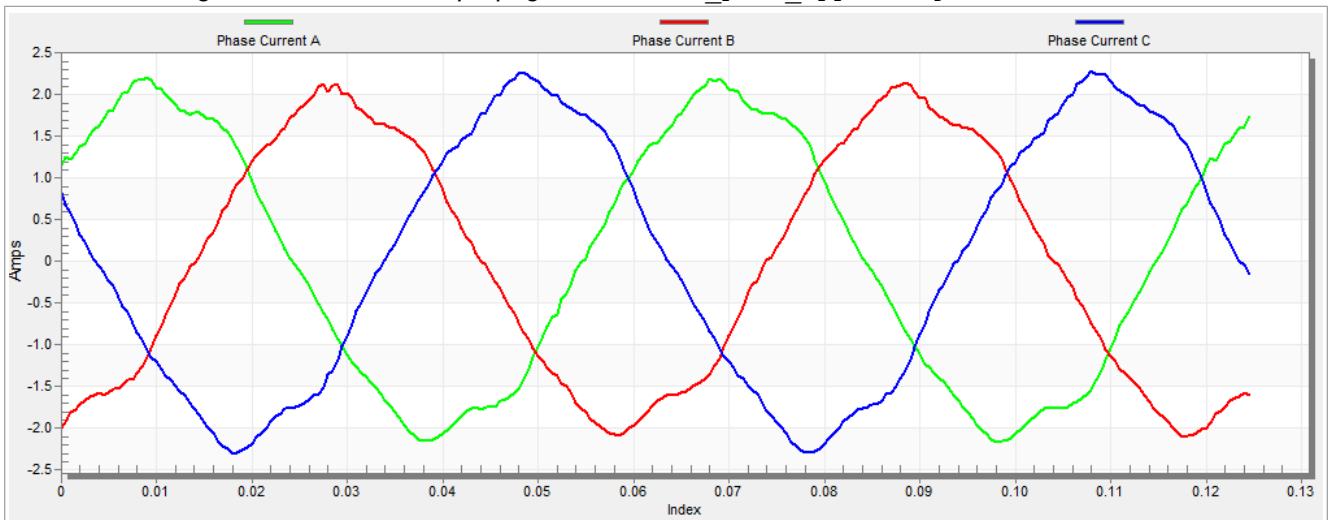

Figure 29. Phase currents
5. The optimal ratio for the V/Hz profile can be found by changing the V/Hz factor directly using the "M1 V/Hz factor" variable. The shape of the motor currents should be close to a sinusoidal shape (Figure 29). Use the following equation for calculating V/Hz factor: